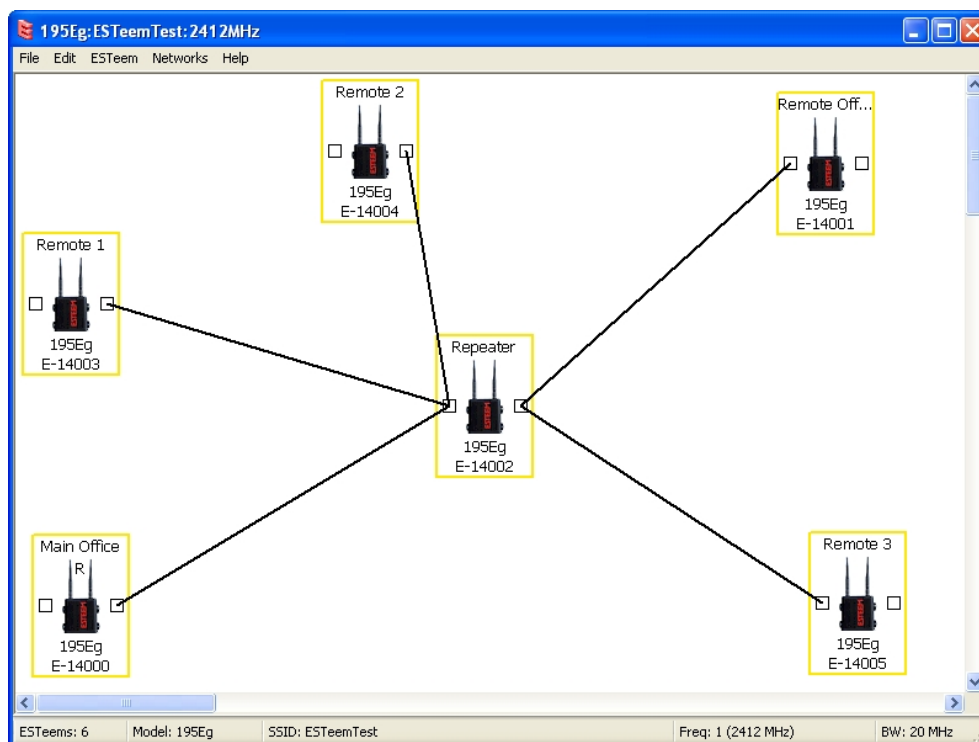

Figure 15: Example 2 Layout
2. Move the ESTeem 195Ea icons on the screen to simulate the layout of the diagram. Draw connection lines between the primary wireless links modems in the same order as the network layout (Figure 15).